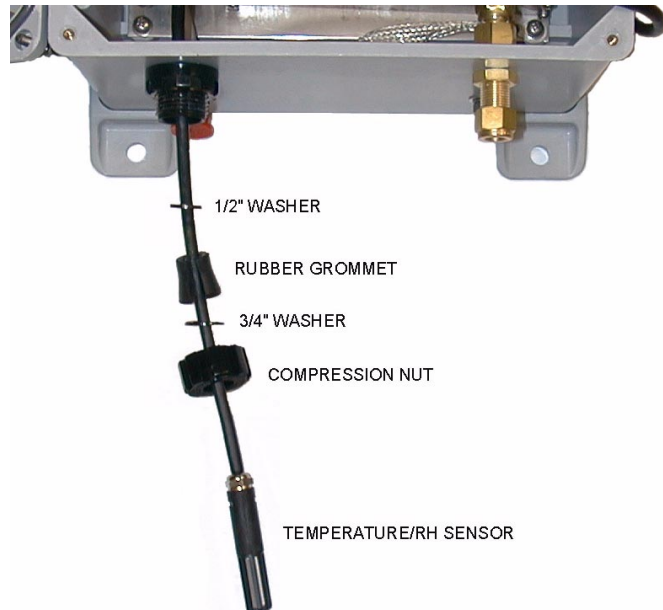

Figure 10-32 Payload Stuffing Tube
8. Unscrew the compression nut from the stuffing tube where the T/RH cable enters the GSOS enclosure (see Figure 10-32).
13. Feed the T/RH sensor through the stuffing tube (and its washers and grommet) as shown in Figure 10-32. The T/RH probe body is too large to fit through the stuffing tube washers and grommet. Make diagonal cuts in the washers and grommet with diagonal cutters or a utility knife.